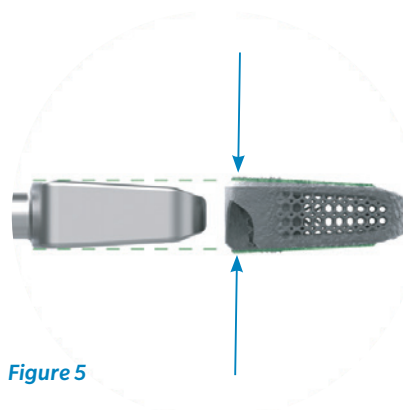

Figure 5
- All labeled heights are measured from the area representing the highest point on the anterior wall of the implant (Figure 5).